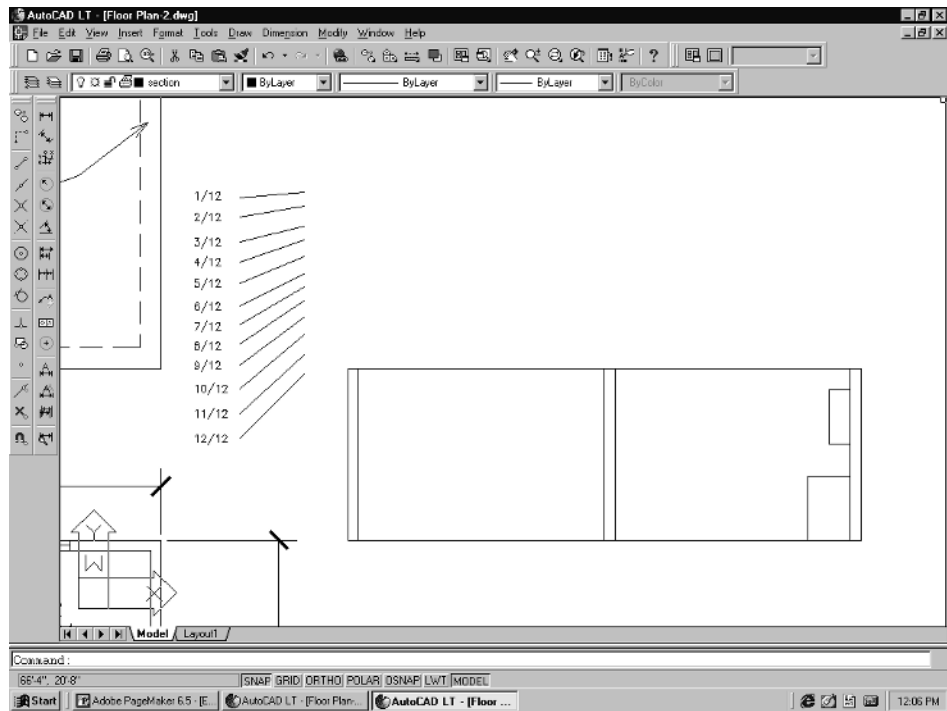

Figure 3-38
2. For the *First point of displacement* prompt, pick right in the center of the roof lines. For the *Second point* prompt, hit the **Zoom Previous** button on the Standard toolbar, then drag the roof lines over closer to the partial section and pick a point. See Figure 3-38. This way they are accessible when you need them.